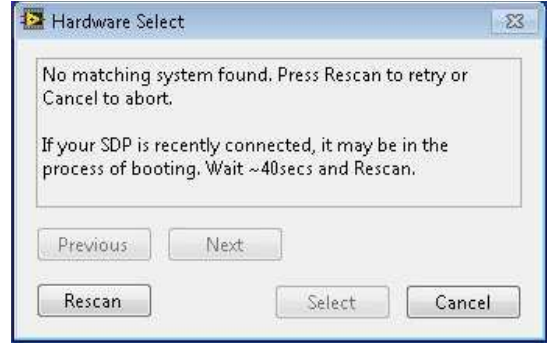

Figure 3. Connectivity Error
3. If the SDP board is not connected to the USB port when the software is launched, a connectivity error displays (see Figure 3). Connect the evaluation board to the USB port of the PC, wait a few seconds, click **Rescan**, and follow the on-screen instructions.